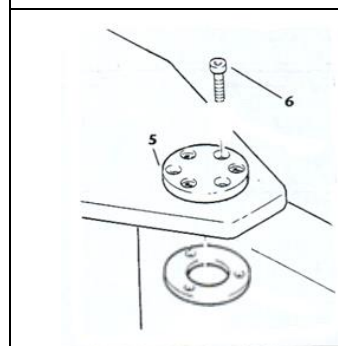

fig. 49
4. Block, with the clamping couples shown in the table, the pivots **5** with their related screws **6** in the three holes at 120° on the pivots' flange **5** (fig. 49).